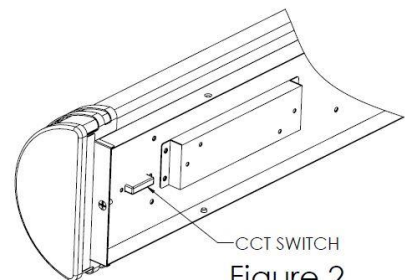

Figure 2
- Adjust CCT switch on the back of the fixture per Figure 2 accordingly to the desired color temperature as seen below. **Note:** Fixture is preset to 3000K from factory.
- Install fixture (3) to the mounting bracket (1) by aligning both top and bottom holes with the bracket then using four screws (4) to secure it.